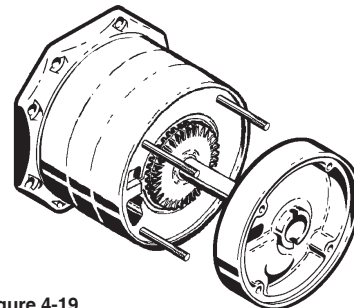

Figure 4-19
- b. Slide the channel ring onto the guide rods with the water channel facing down towards the impeller. The small outlet opening should be on the opposite side from the pump inlet. Refer to Figure 4-19. Push on firmly until the "O"ring fits inside the lip in the previously installed channel ring.
- Slide the channel ring onto the guide rods with the water channel facing down towards the impeller. The small outlet opening should be on the opposite side from the pump inlet. Refer to Figure 4-19. Push on firmly until the "O"ring fits inside the lip in the previously installed channel ring.